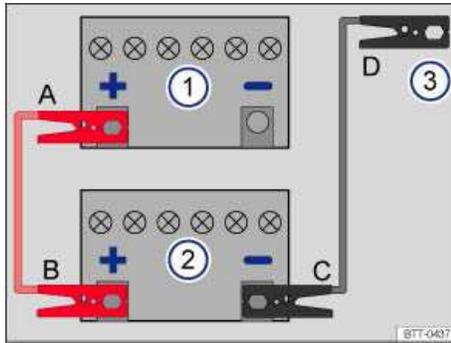

Fig. 211 Diagram for attaching the jumper cables: Dead battery 1 and booster battery 2.
The procedure for attaching and for removing the jumper cables is described below. Perform each of the following steps only in the order described, which follow the letters shown in the illustration ⇒ fig. 211
3. Attach one end of the *red* jumper cable to the **positive terminal (+)** of the dead battery: (1) ⇒ .
4. Attach the other end of the *red* jumper cable to the **positive terminal (+)** of the good battery (booster battery): (2).
5. Attach one end of the *black* jumper cable to the **negative terminal (-)** of the booster battery: (2) ⇒ fig. 211.
6. Attach the other end of the *black* jumper cable (3) to a **bare metal part of the vehicle with the dead battery**. This part should be connected directly to the engine block. You may also attach the cable to the engine block itself. Attach the clamp to a point that is as far away as possible from the dead battery (1) ⇒ .